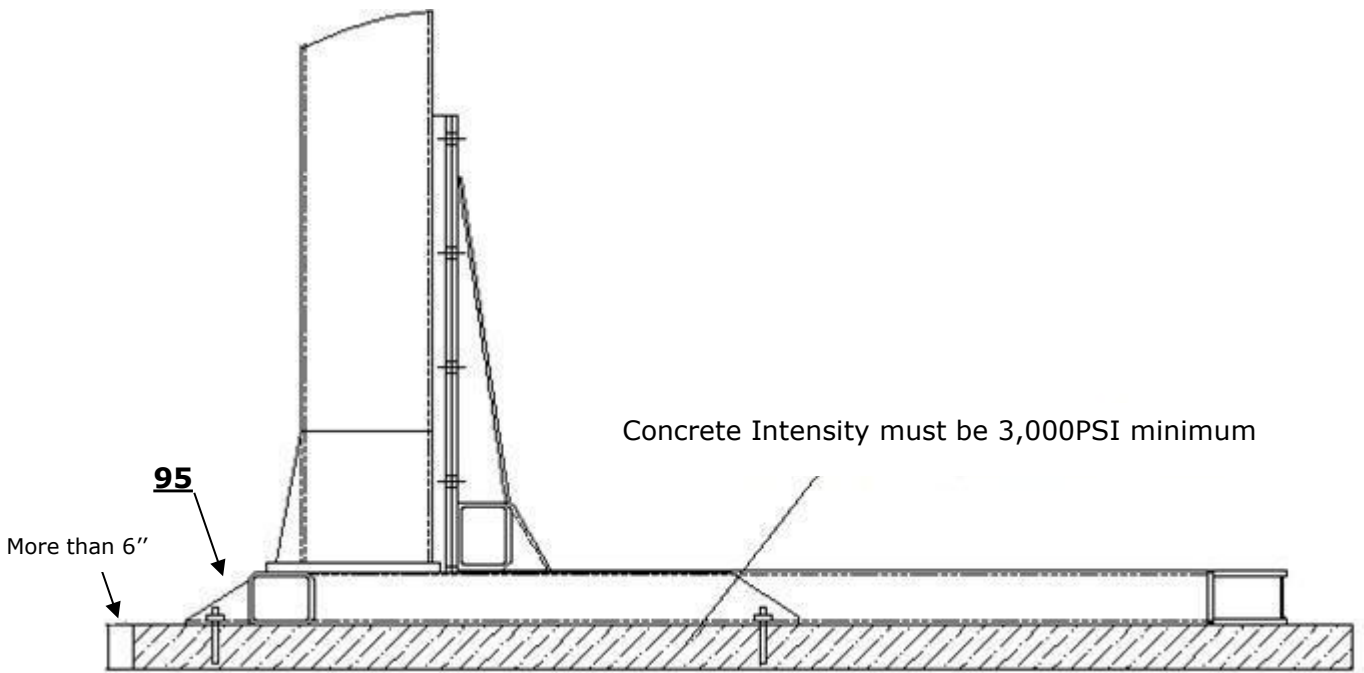

Fig.4
C. SPECIFICATIONS OF CONCRETE (See Fig. 4)